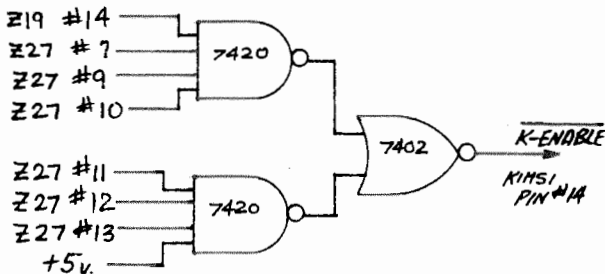

FIG 1. GENERATES NEW K-ENABLE SUITABLE FOR AIM MEMORY MAP. SEE ALSO KIMSI MANUAL PAGE A4 (3) FIGURE 'C'.
Next, to accommodate AIM's memory map, we have to create a new K-enable. This is explained on page A4(2) of the KIMSI manual, but the general idea is to tell the KIMSI to turn itself off when the proc. is "talking" to a device on it's own board. I used the circuit in fig. 1 on a small piece of breadboard mounted on the AIM. This, I thought, was better than running 8 lines to the KIMSI prototype area. As explained in the KIMSI manual. The KIMSI decoding circuitry has to be disabled by cutting the "V" shaped run under the board at Z11, pin 11.